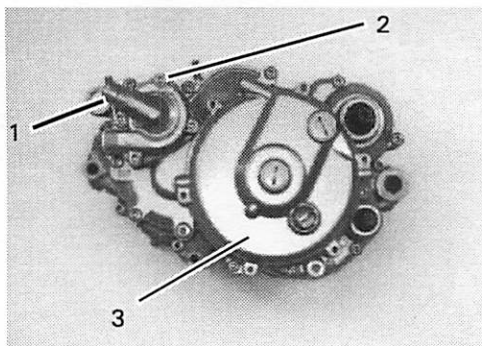

Figure 117
3. Install the water pump housing (1, Figure 117) and its 4 Allen screws. Install the washer on the upper Allen screw (2, Figure 117). Tighten the Allen screws.
5. Install the clutch release cover (3, Figure 117) and its 6 Allen screws. Tighten the Allen screws.